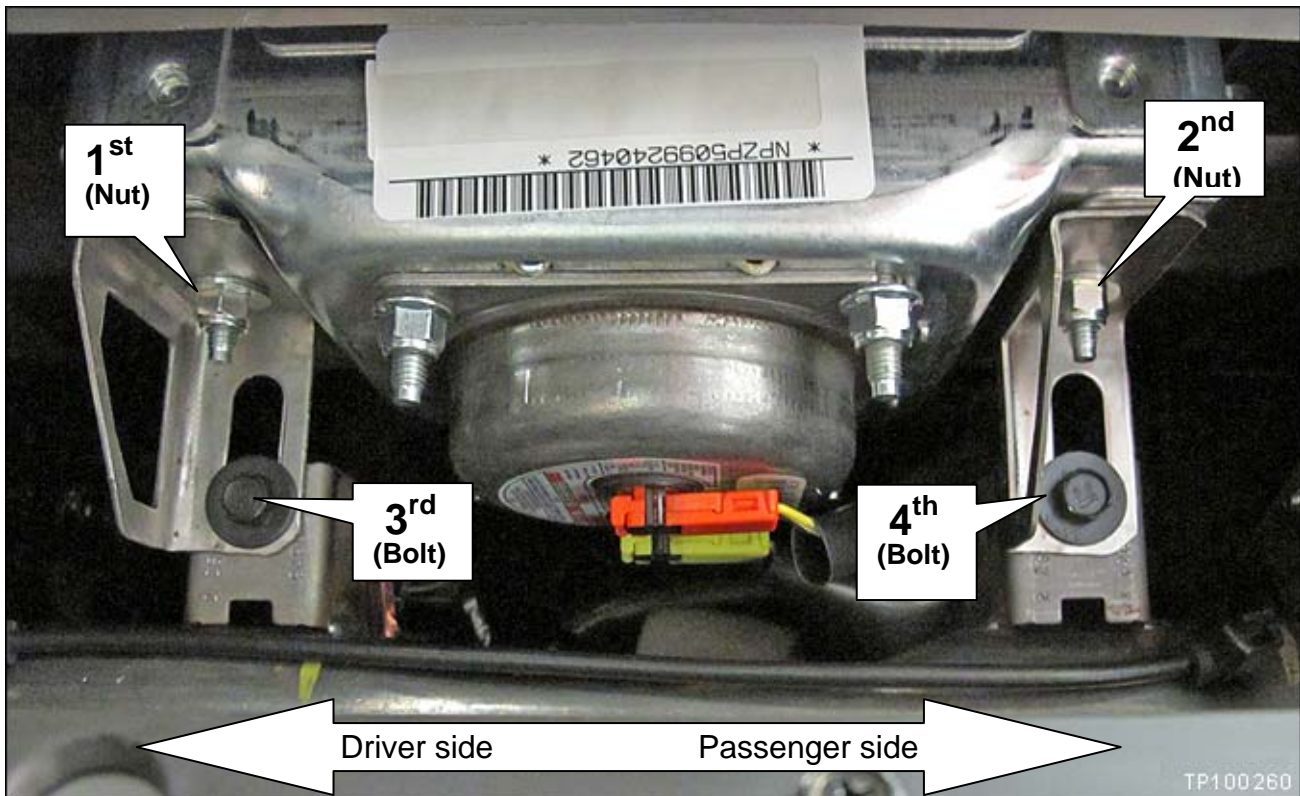

Figure 12
16. Perform a torque check on the passenger air bag fasteners (2 nuts and 2 bolt) as follows (see Figure 12):
- c. Torque the nuts and bolt in the order shown in Figure 12.
C. Tighten and torque the nuts and bolt in the order shown in Figure 12.